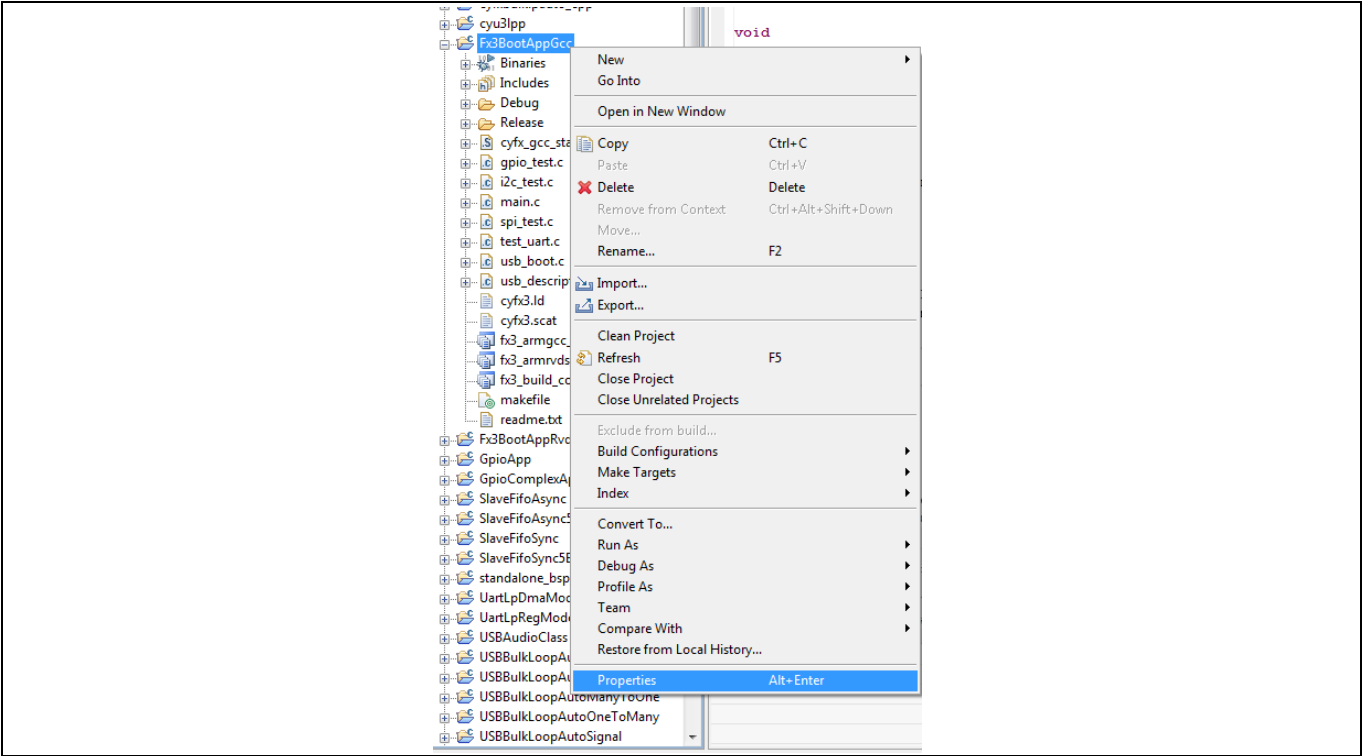
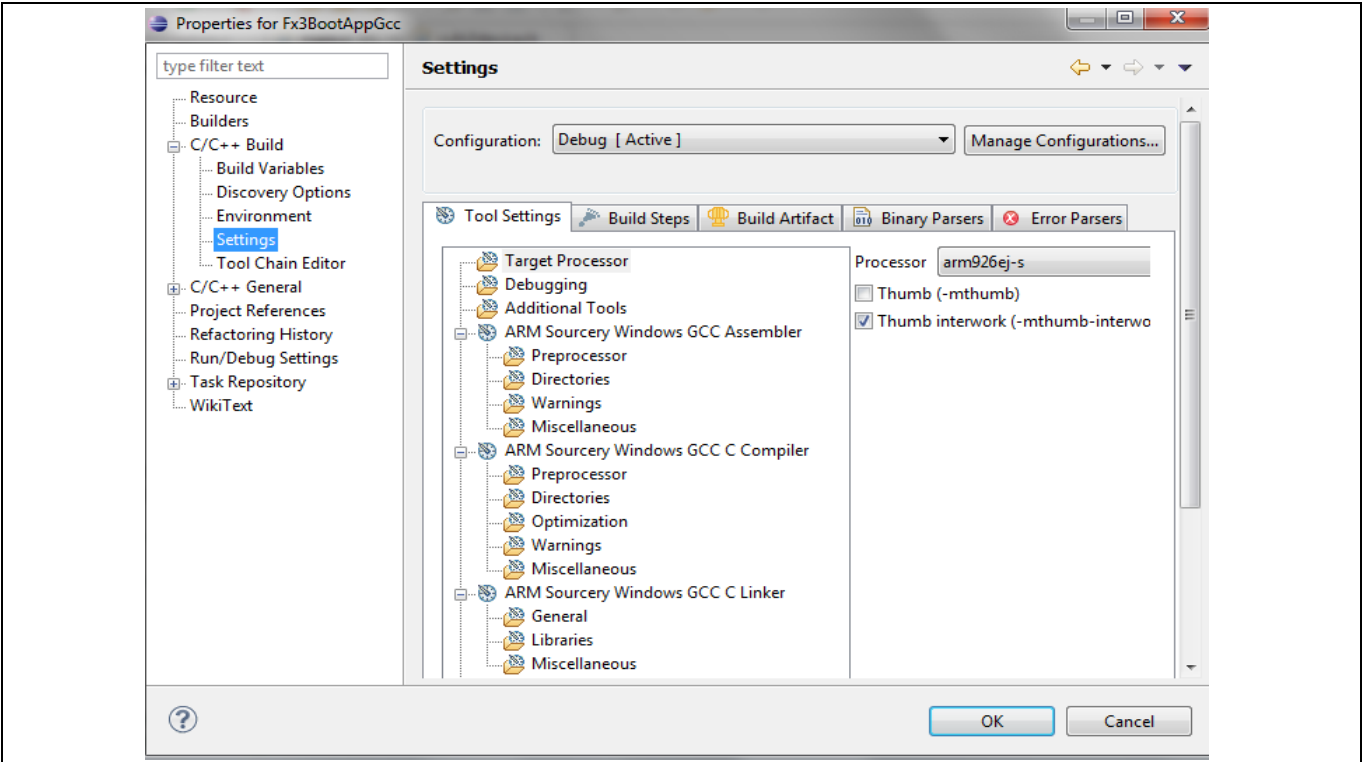

Figure 13 Right-click on project in Eclipse IDE
Figure 14 Select Settings
1. Build the firmware image in the Eclipse IDE as shown in Figure 13, Figure 14, and Figure 15.